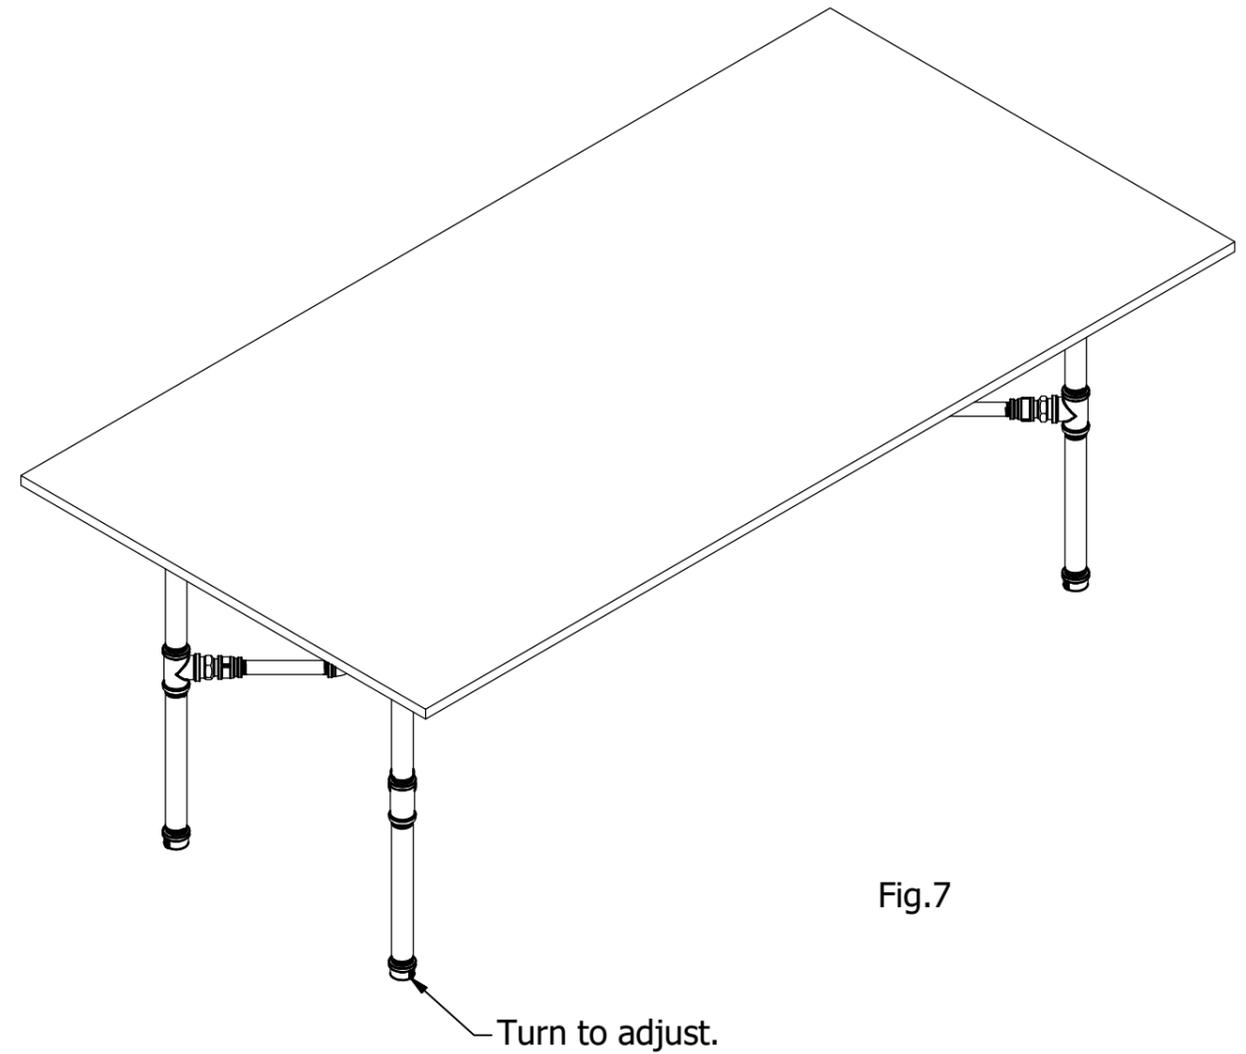

Fig.7
6) Adjust feet to prevent rocking. (Fig 7.)